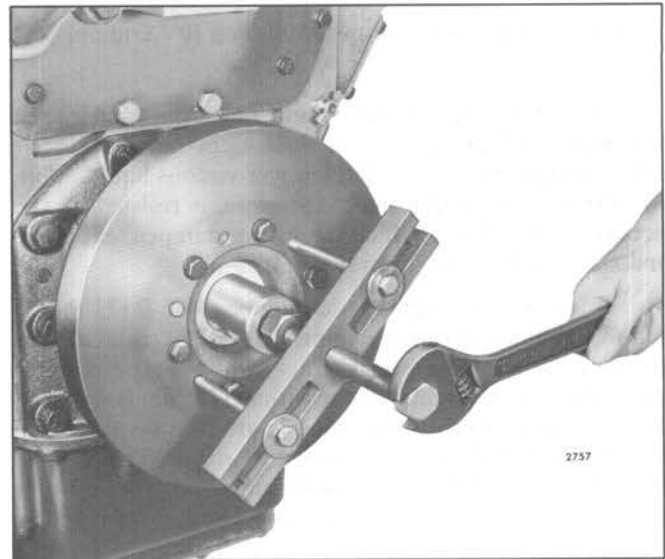

Fig. 3 – Removing Vibration Damper Outer Cone
4. Attach puller J 24420-A to the vibration damper hub with two long bolts threaded into the two 3/8"-24 tapped holes provided in the hub (Fig. 3). Pull the damper and hub assembly together with the outer cone, until the outer cone is loose on the crankshaft. If the puller method does not free the damper, use a punch in the split of the cone to pop the cone out.